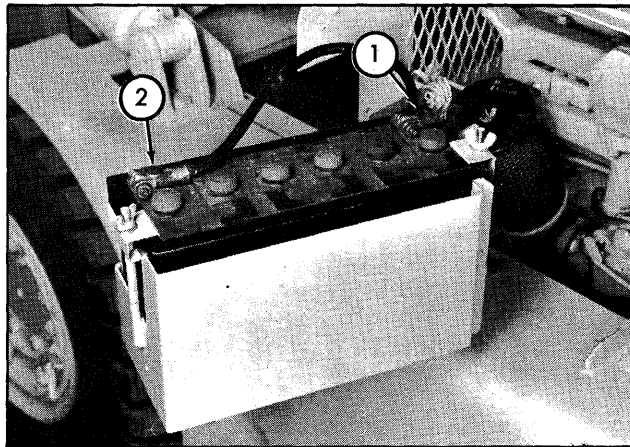

Figure 1-7. Battery
e. The battery has a negative ground. Install it as shown in Figure 1-7. Install the hold-down clamp and cables.